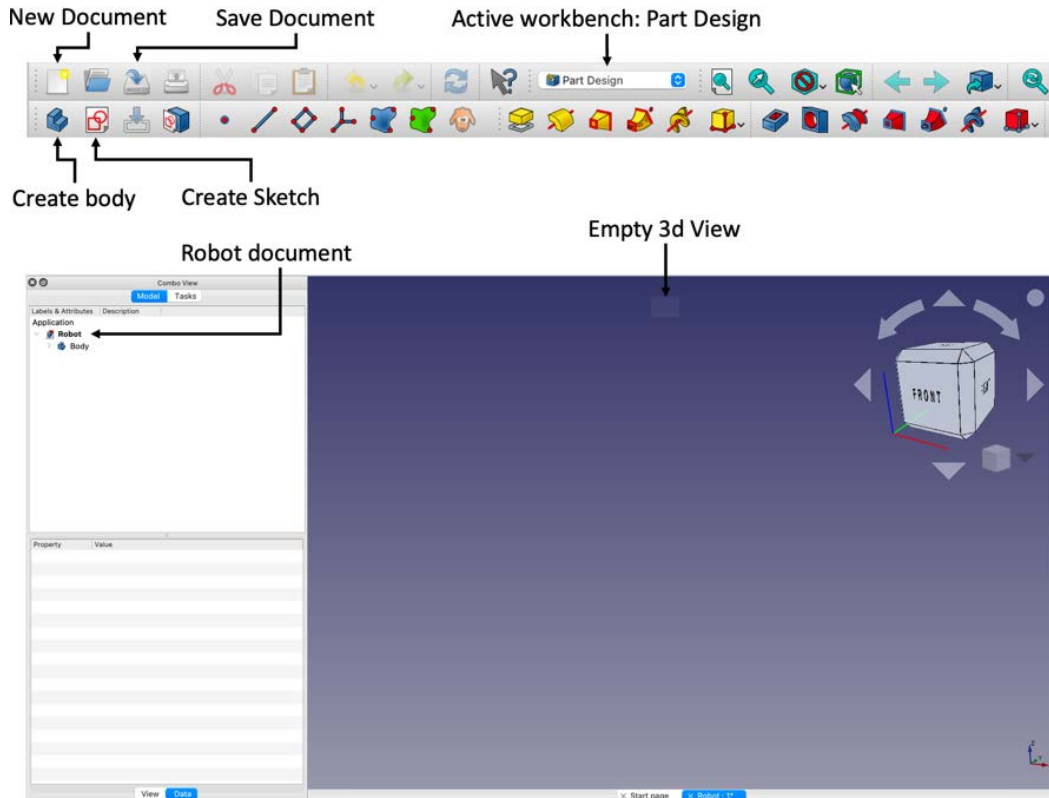

Figure 3.6 – Creating a document
Figure 3.6 shows annotated screenshots of FreeCAD. Follow these steps to get started:
1. Select **Part Design** from the **Workbench** menu to enter this workbench. The toolbar will look like the top of Figure 3.6.
2. Create a new document by clicking the toolbar icon. You'll see an empty 3D view, shown in the lower screenshot in Figure 3.6.
Sketching is a critical part of a FreeCAD workflow. We'll start with the main sketches of chassis parts and use them to model in 3D. Click the **Create Sketch** toolbar icon, as shown in *Figure 3.6*.